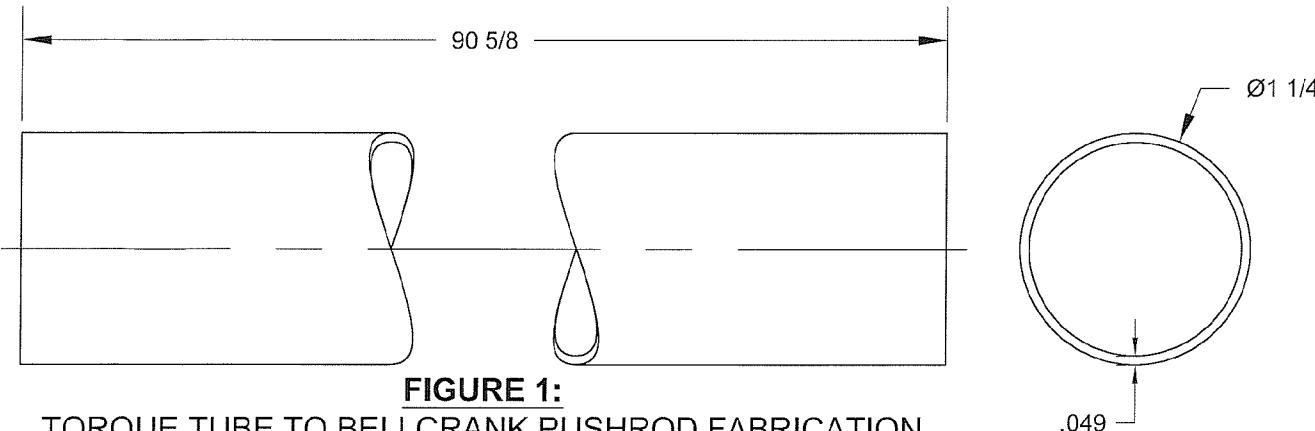

FIGURE 1:
Step 1: Fabricate two W-1017A Torque Tube to Bellcrank Pushrods by cutting two pieces of AT6-049 X 1 1/4 to the length shown in Figure 1.